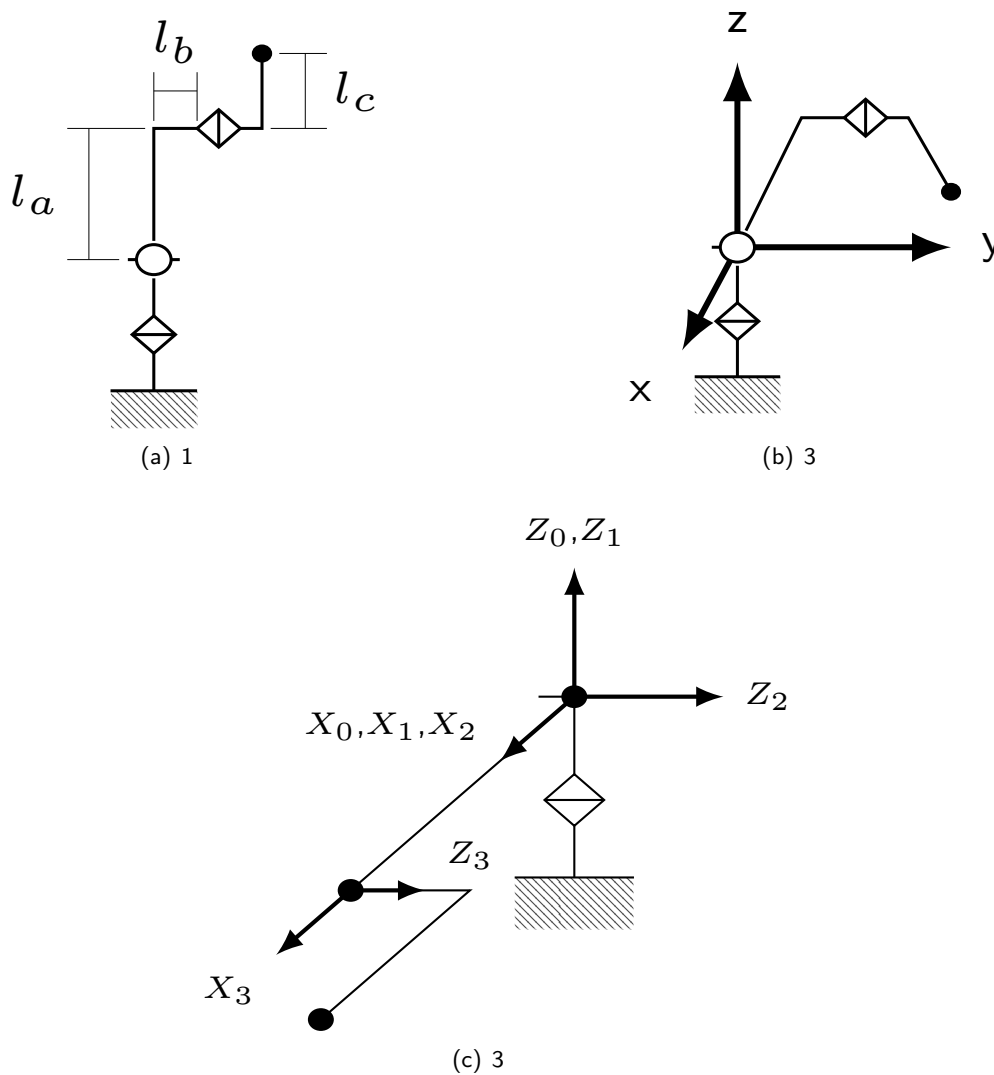

Figure 2: (a) Manipulator sizing. (b) Position of the manipulator endpoint. (c) Manipulator geometry.
**Task 3.2 (4 points) DH-Parameters:** Figure 2 shows a manipulator with three degrees of freedom. The position of the manipulator endpoint is specified by the vector